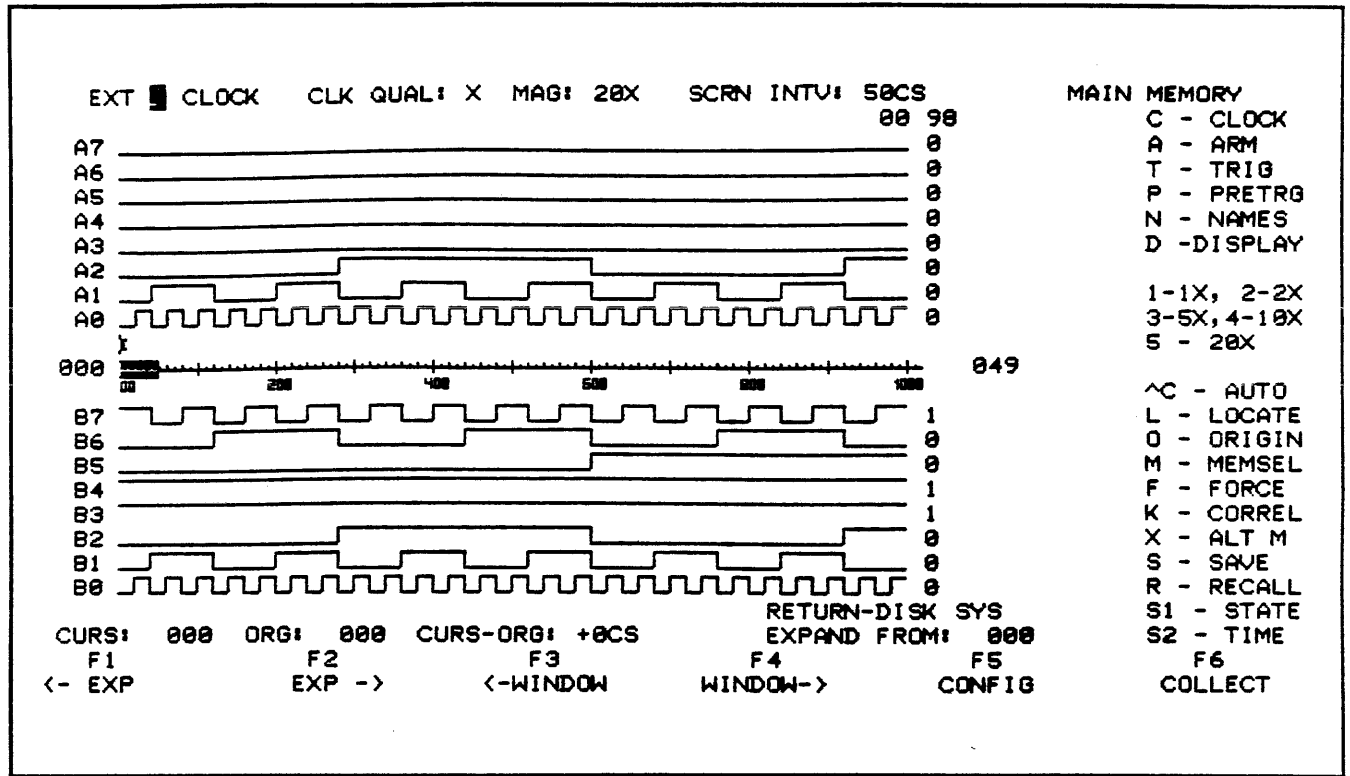

Figure 2-19: Timing Diagram with 20X Expansion
- h. Next press the LABELS key. Try magnification factors between 2X to 20X using the 2 to 5 numeric keys as indicated in the LABEL MENU. After higher magnification keys are pressed, the inverse video indicator at the bottom of the screen reduces proportionately in size. This indicator shows the location and amount of timing data currently being displayed relative to the entire 1000-word data collection. At 20X magnification, note that the inverse video indicator is only 5% of the original (1X) size. The screen now displays timing data between memory locations 100 and 150. Refer to Figure 2-19. Finish by setting the magnification at 10X.